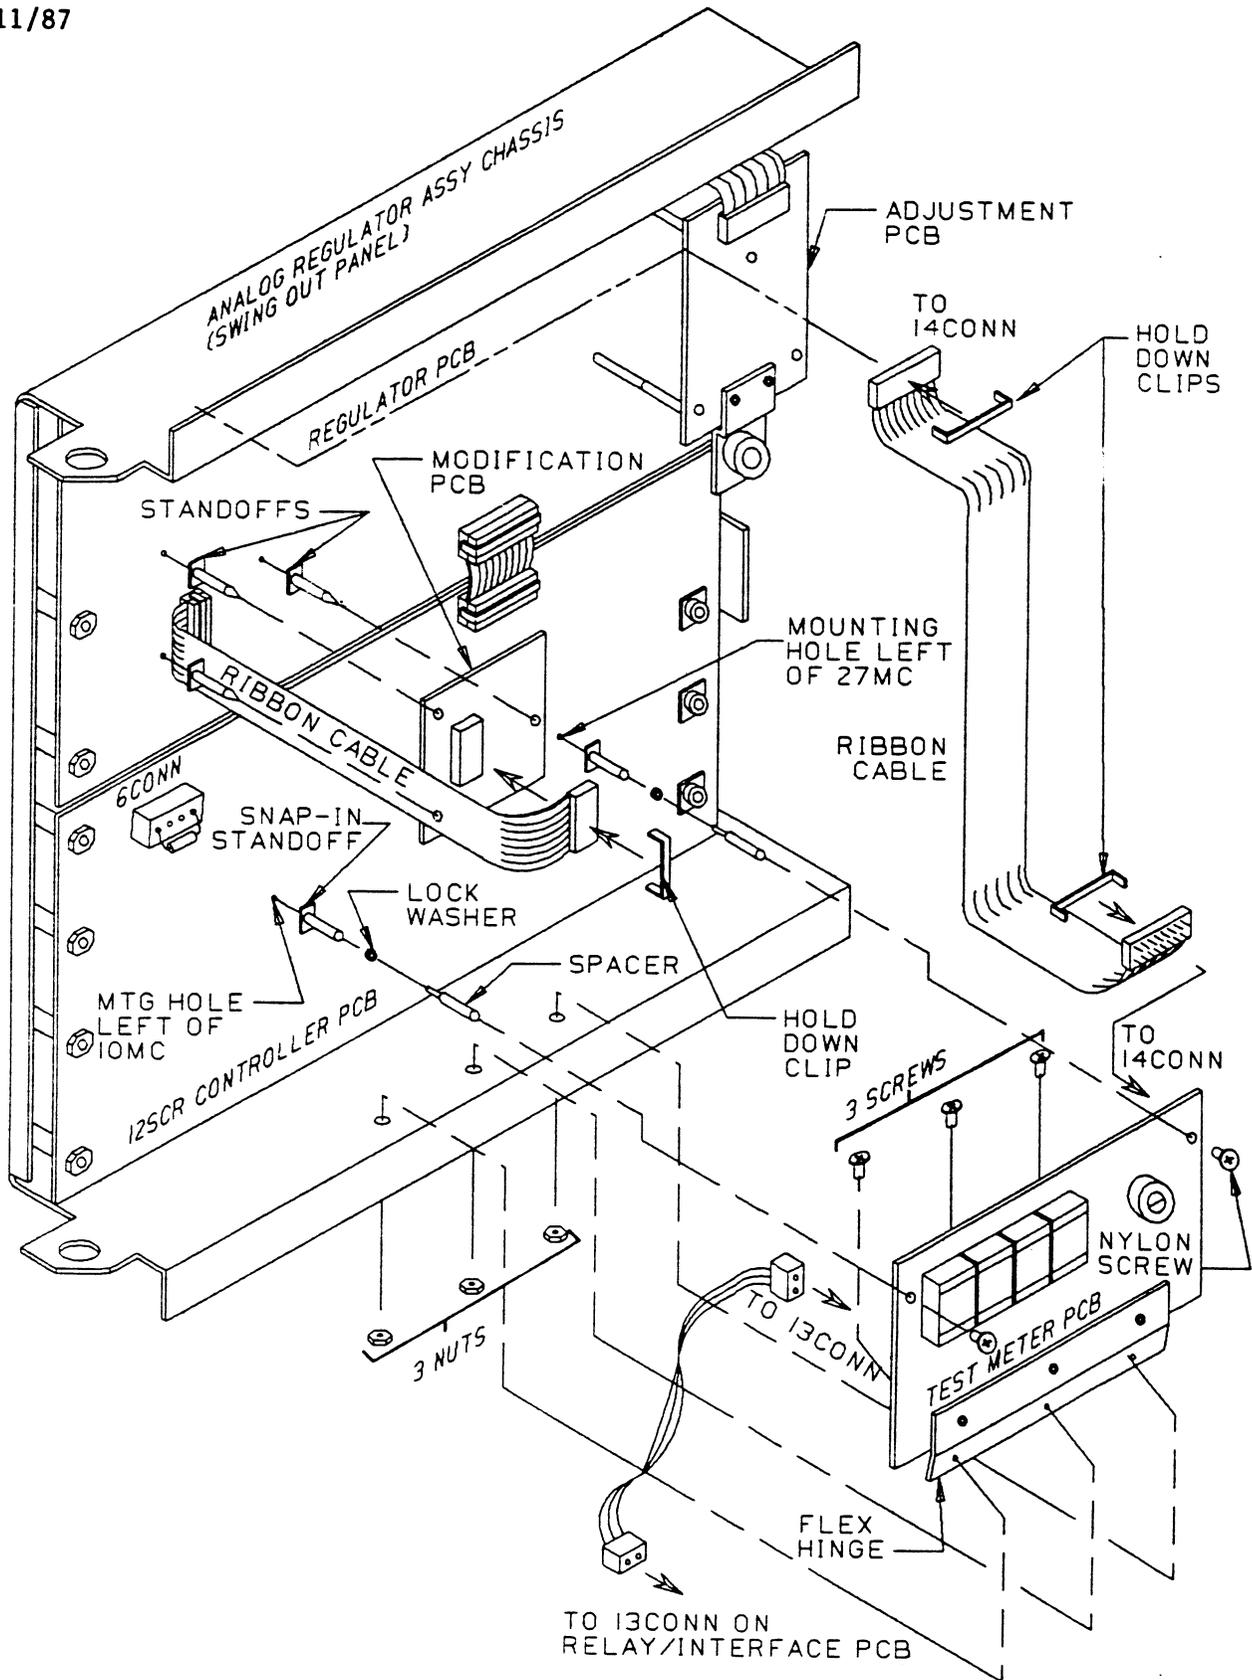

Figure 7-1. Mod Kit Installation on Analog Regulator Assembly
7.1 MODIFICATION PCB INSTALLATION (See Figures 7-1 and 7-2)